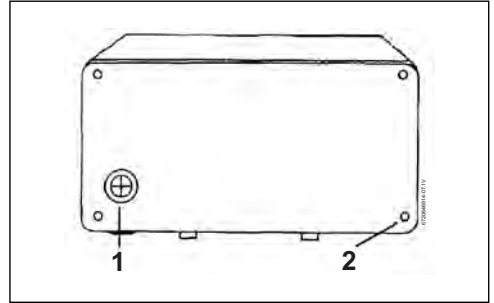

Fig. 10 Back of unit
- ▶ If it is going through the back of the unit, cut through the grommet on the backplate with a sharp knife. Make sure that you do not remove the grommet from the backplate (Fig. 10 ):